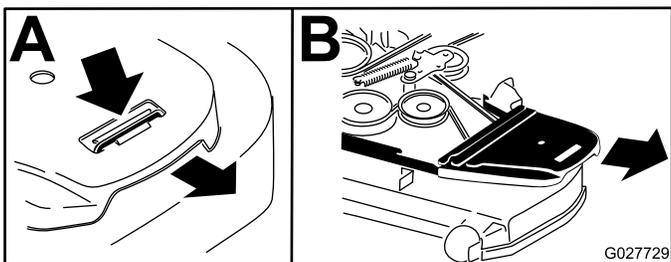

Figure 90
6. Remove the belt covers (Figure 90).